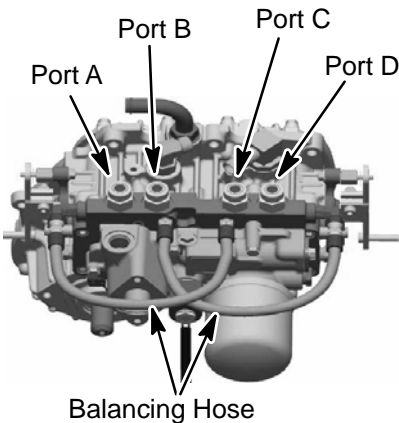

Figure 44
3. Thoroughly clean area surrounding traction circuit hoses on top of transmission (Fig. 44 or 45). Determine which piston pump circuit is to be filtered.
4. Disconnect hydraulic hose from transmission pump inlet fitting for piston pump to be filtered (Fig. 44 or 45):
6. Disconnect balancing hose from transmission fitting closest to transmission pump inlet for pump to be filtered (Fig. 44 or 45). Install steel cap on fitting and steel plug in balancing hose.